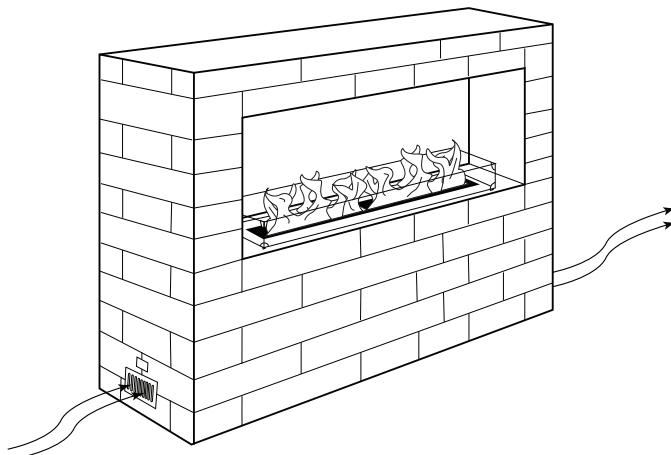

Fig. 3. Cross ventilation example providing minimum of 18-square inches per side using Firegear VENT-KIT-6x12 provided.
- CAUTION:** A minimum of 18 square inches of cross ventilation (per side) is required to keep the inside of the enclosure dry. Install the supplied VENT-KIT-6x12 approximately 3 to 4 inches from the floor centered on each end of the fireplace (See Fig. 3, page 6).
Fireplaces are subjected to many outdoor elements such as rain, snow, wind, heat or cold. **A minimum of 18 square inches of cross ventilation (2 sides) is required to keep the components in good working order.** Use Fig. 3 as a guide.